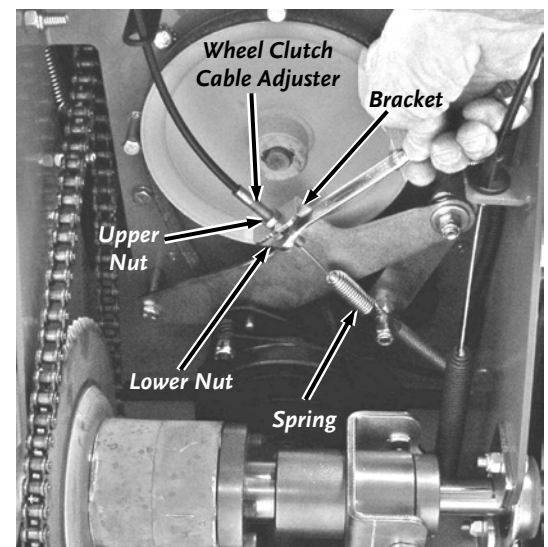

Figure 24
- (2) 1/2" Wrenches
- Find the Wheel Clutch Adjuster on the Bracket on the underside of the machine (**Figure 24**).